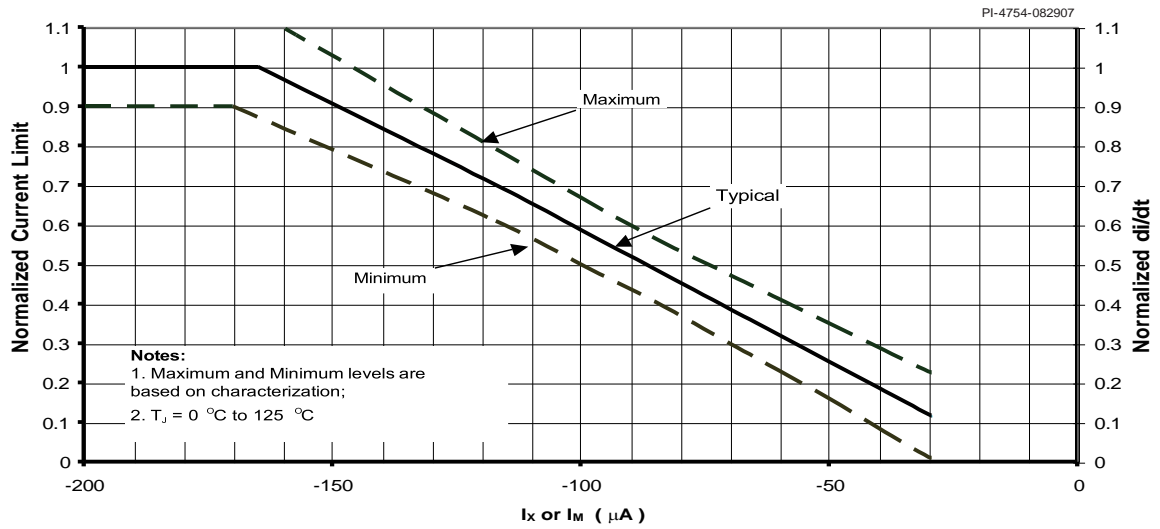

Figure 50a. Normalized Current Limit vs. X or M Pin Current.
- C. For externally adjusted current limit values, please refer to Figures 50a and 50b (Current Limit vs. External Current Limit Resistance) in the Typical Performance Characteristics section. The tolerance specified is only valid at full current limit.